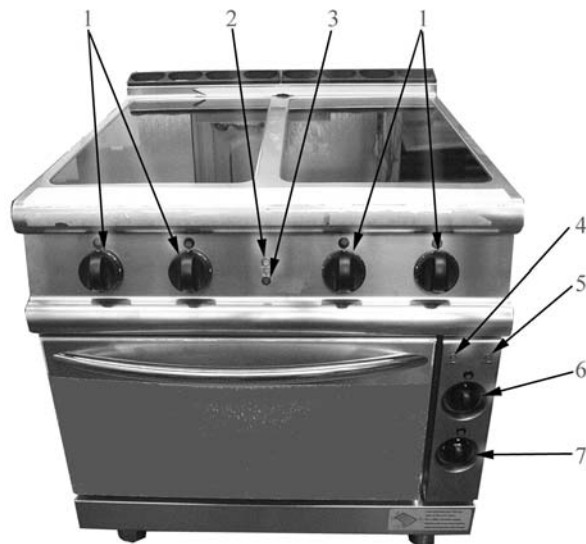
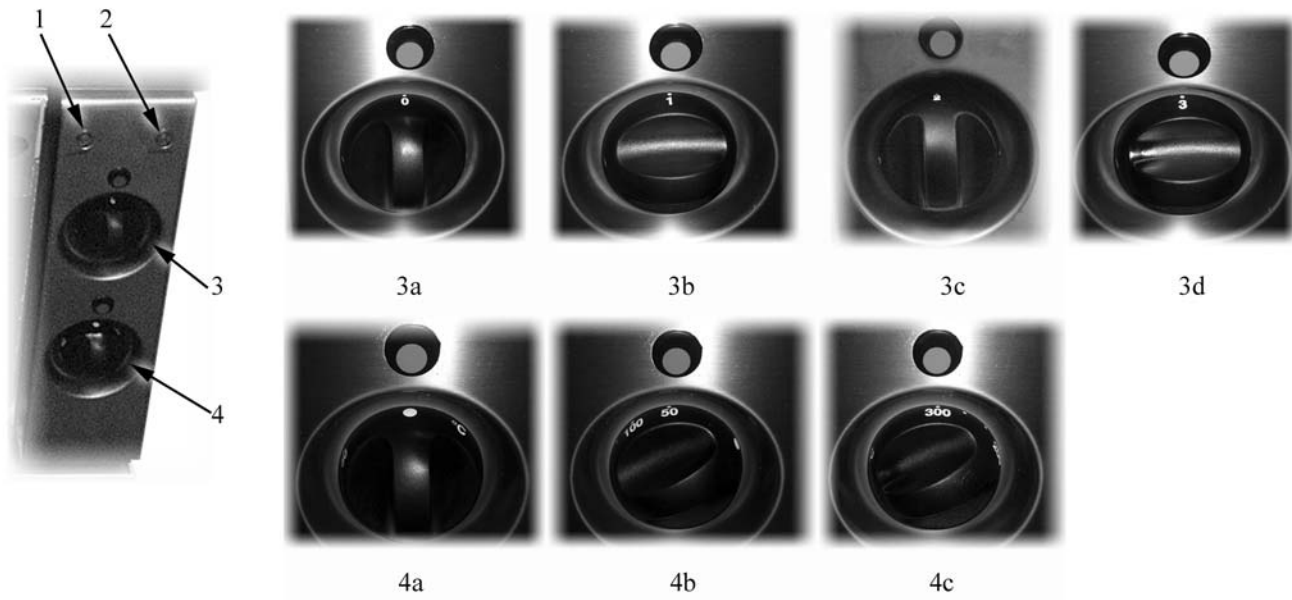

Fig. 2
Fig. 4
Turning the knob to the desired position switches on the power indicator light (item 2 in Fig. 2). This means that the appliance is on and the selected cooking zone is beginning to heat up. This type of heating takes place when the heating elements are enabled and heat spreads through radiation. The heating elements temperature can be adjusted through a power regulator.
Choose the heating direction on the knob indicated as (item 3 in Fig. 4). Set the cooking chamber temperature by turning the oven operating thermostat knob in clockwise direction (from item 4b to item 4c in Fig. 4), the heating elements start to operate and the line pilot lamps (item 2 e item 5 in Fig. 2) light up together with the oven indicator lamp (pos. 4 in Fig. 2). When the selected temperature has been reached, the indicator lamp turns off. The oven temperature can be set between 50° and 300°C and to intermediate values.